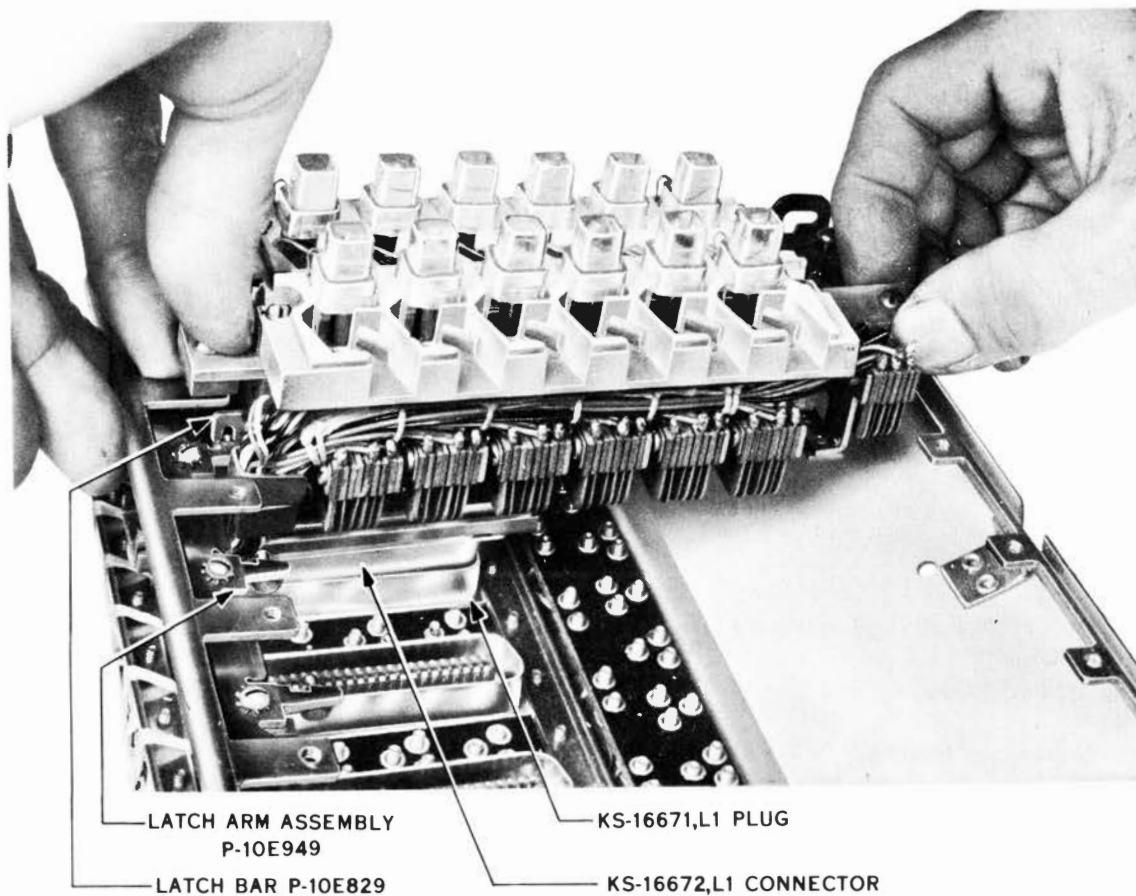

Fig. 4 — Method of Placing Key
3.05 To install key (Fig. 4) :